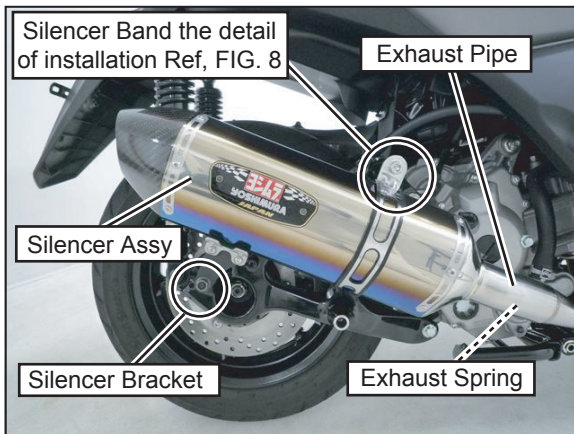

FIG. 6
- 5) Install Silencer Assy to Exhaust Pipe. Then, fix them with the Exhaust Spring and attach Silencer Bracket to Stock silencer mount with Stock Bolt (See Fig. 6, 7) Tighten bolts by hand only at this stage.
- 6) Place Silencer Band Rubber into Silencer Band and attach Silencer Band on Silencer Assy. Then, fix Silencer Band to Stock silencer mount with Cap Bolt M10x55, Washer M10x22 and Spacer 10-24-15 (See Fig. 6 & 7) Tighten the nut by hand only at this stage.